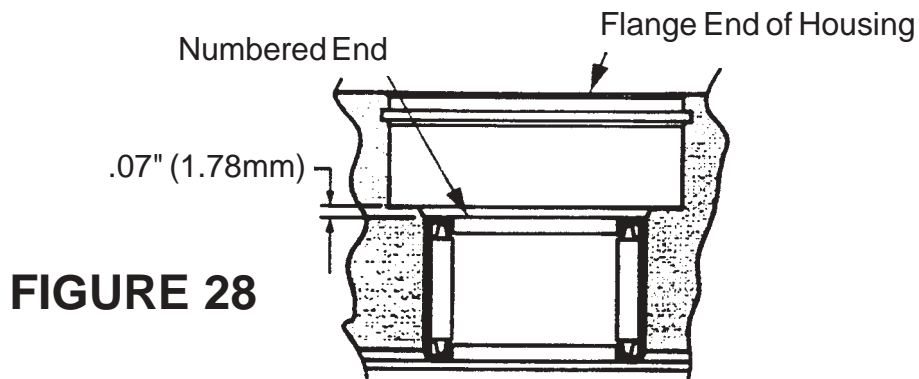

**FIGURE 27**
8. **Back Plate inspection** (See Figure 27).
Check the Bearing (Press Fit) in Back Plate, If Needles remain in cage, Move freely and settings is at the Dimension shown in Figure 27, removal of Bearings is not required. Check Roll Pin in Back Plate, If tight and set to dimensions shown in Figure 27, removal is not required.